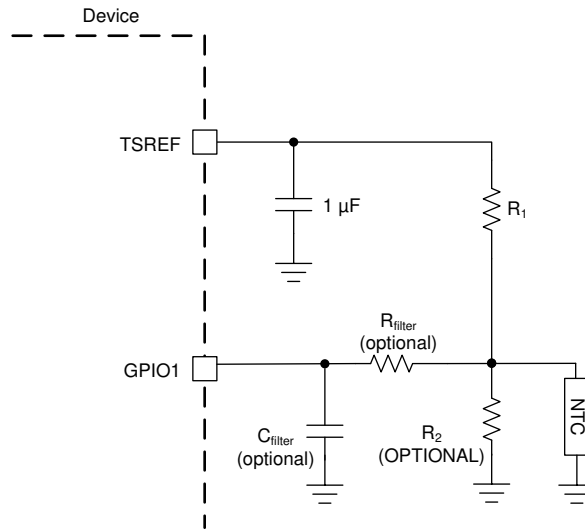

图 8-5. Thermistor Connection
图 8-5 shows the thermistor circuit when GPIO is enabled for thermistor measurements. MCU ensures TSREF is enabled by setting *CONTROL2[TSREF_EN]* = 1 and settled before taking the measurement value.
- $R1$ is the pull-up resistor as shown in 图 8-5 with the assumption the $R2$ is not used